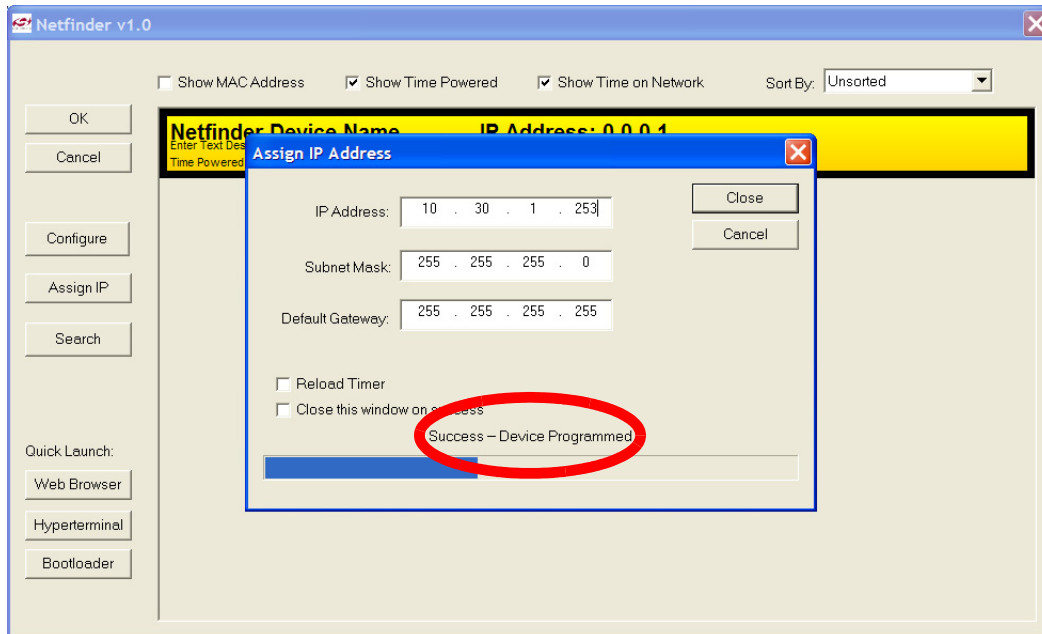

Figure 22. Assign IP Address Dialog
6. Enter the IP address, subnet mask, and default gateway (if known) into the 'Assign IP Address' dialog and press **OK**. See Appendix A for information on how to configure the PC with a static IP address and how to select a static IP address for the CP2201EB. A windows command line window should appear, ping the device at its new address, then close. Programming is successful when the progress bar stops and gives the message "Success - Device Programmed" as shown in Figure 22.